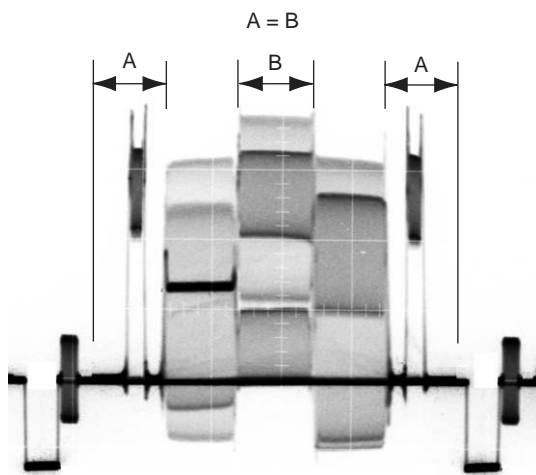
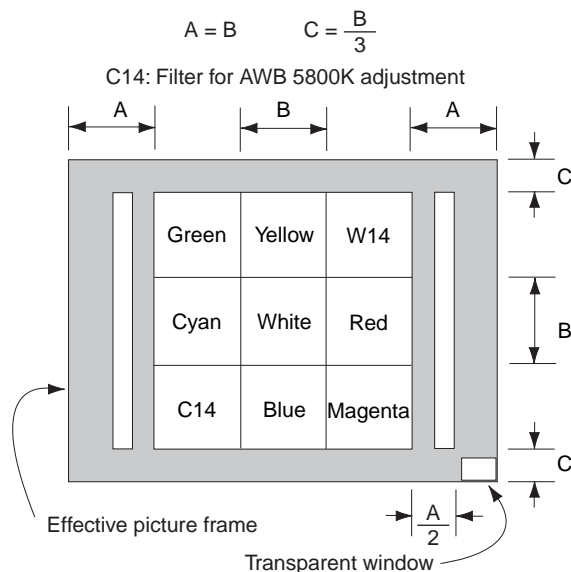

Fig. 6-1-29
Fig. 6-1-31
- 3) Upon successful completion of “1. Data Setting during Camera Adj.”, “2. Picture Frame Setting” is executed. The following message is displayed, and then referring to Fig. 6-1-29 to Fig. 6-1-31, set the subject and click the **[OK]** button.
- 3) Upon successful completion of “1. Data Setting during Camera Adj.”, “2. Picture Frame Setting” is executed. The following message is displayed, and then referring to Fig. 6-1-29 to Fig. 6-1-31 (See page 6-21), set the subject and click the **[OK]** button.